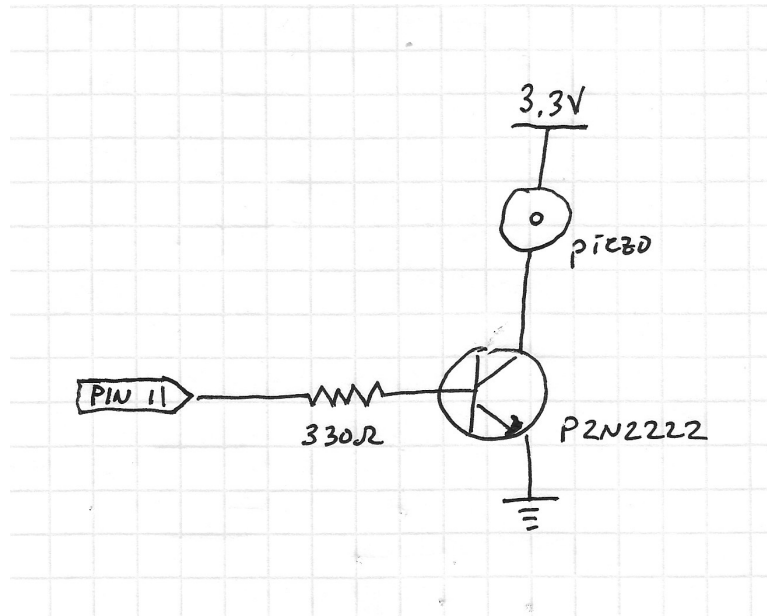

Figure 4: Circuits for the piezo “buzzer”.
4. Build the piezo “buzzer” circuit in Figure 4. Note that the piezo circuit here is different from the one you built in the pre-lab. Specifically, the current draw of the piezo puts too much strain on a pin, so we'll have you build a high current circuit similar to the one you build for the motor.